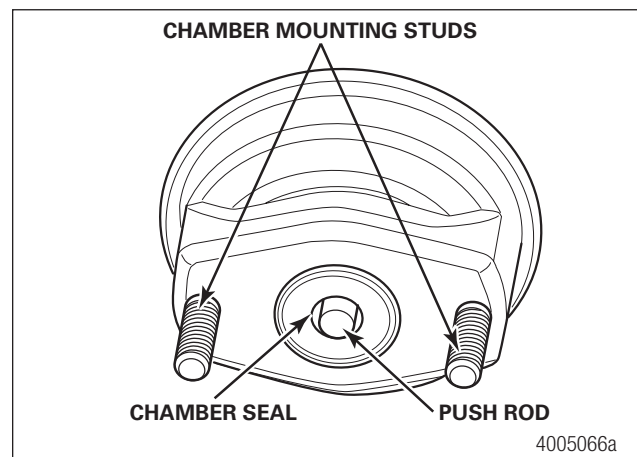

Figure 10.2 Air Chamber Inspection Points
4. With the air chamber removed, visually inspect the chamber mounting studs. Figure 10.2.